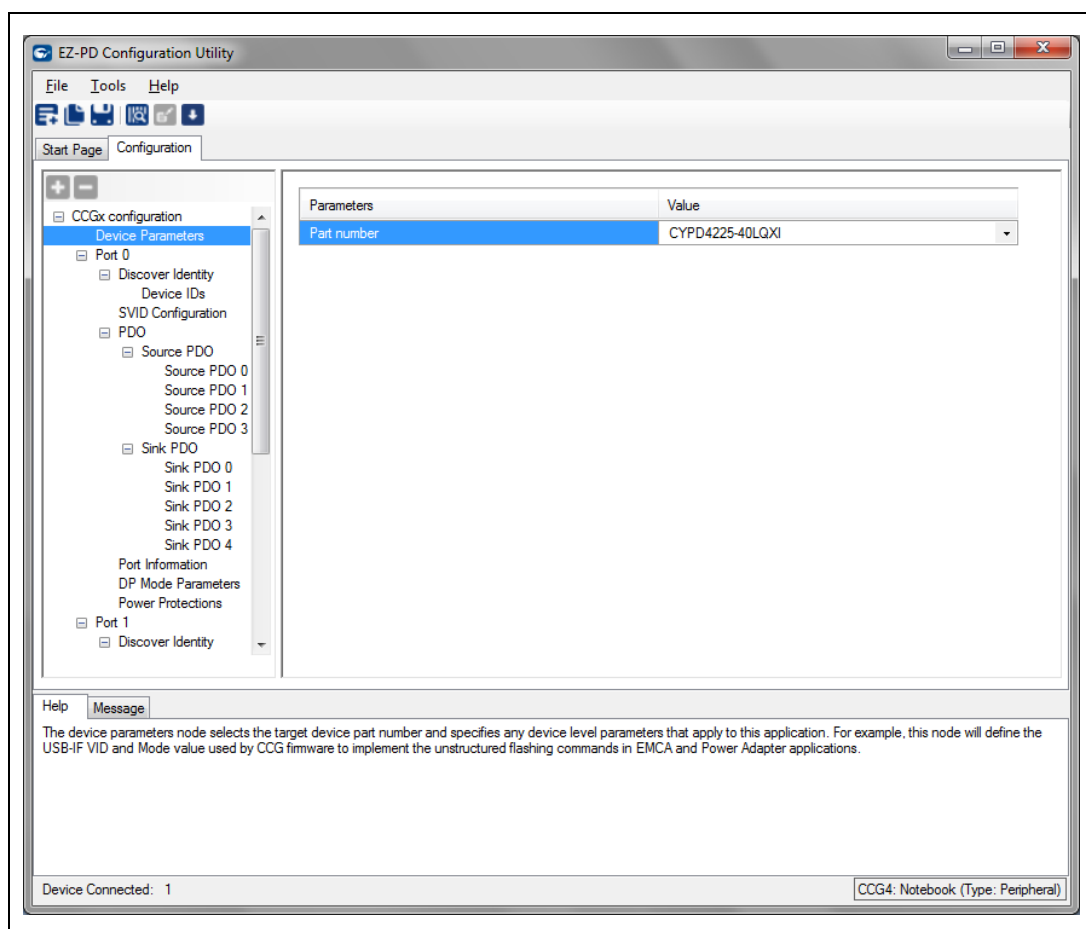

Figure 16 Existing Configuration Table of CCG4 device in CY4541 CCG4 EVK
1. The existing configuration will now be read, and will be displayed in the utility in a tree under **CCGx Configuration** in the left panel as in Figure 16. Device configuration parameters are classified into Device Parameters, Port Parameters, and User Parameters. For multi-port devices there will be multiple copies of the port parameter entries. Port parameters are further classified and grouped into a hierarchical tree structure.